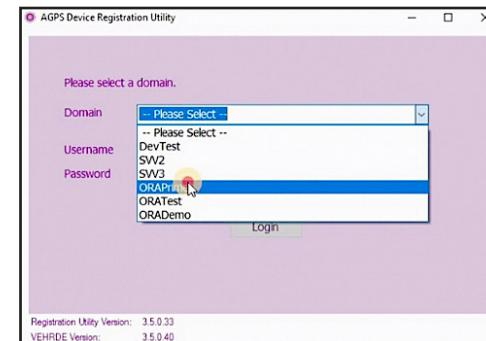

Figure 2-23 The Registration Utility Login Screen
- 7.5 Go to the Windows** desktop and open "VEHRDE Registration." The registration utility login screen is displayed as shown in **Figure 2-23**.
- 10.7 Go to the Windows** desktop and open "VEHRDE Registration." The registration utility login screen is displayed as shown in Figure 2-23.